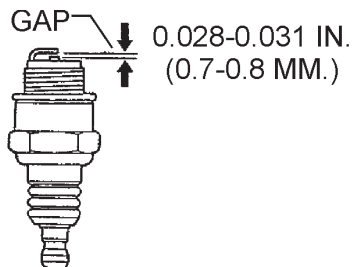

Figure 12. Spark Plug Gap
3. Remove and clean the spark plug (Figure 12), then adjust the spark gap to 0.028 ~0.031 inch (0.6~0.7 mm). This unit has electronic ignition, which requires no adjustments.